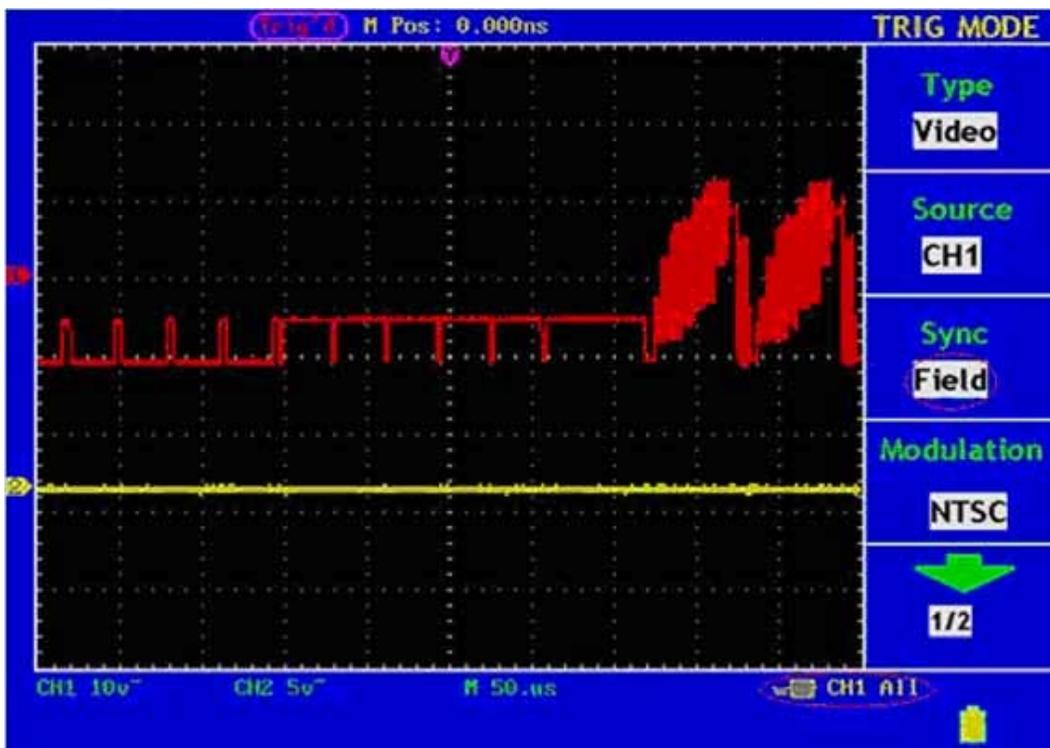

Fig. 31 Wave Form Triggered in the Video Field
4. Press the **F3** menu selection button and choose **Field** for Sync. The screen display is shown as Fig. 31.